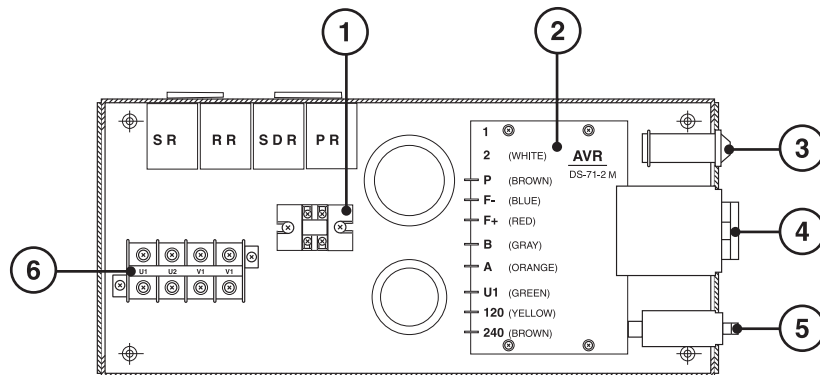

Figure 19: Control Box Components.
3. Generator excitation is provided by activation of the pre-heat circuit and electrical output voltage is controlled by the automatic voltage regulator (AVR) located in the control box (Figure 19, Item 2).
### CONTROL BOX (Figure 19)